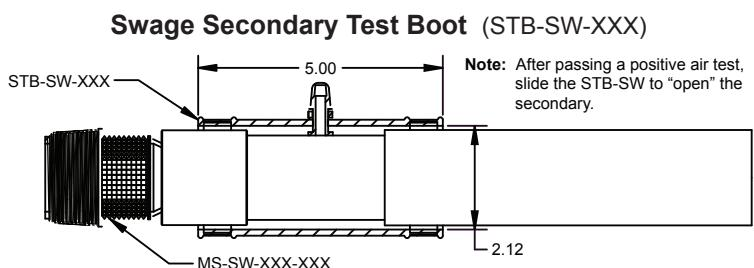

Figure 2
2. Square off and de-burr the end of the pipe. If you are using SC (Secondary Contained) piping, cut back the scuff guard layer to the sump wall (approximately 9" in dispenser sumps) and cut back the SC layer 4½". For further cutback details, see the process's complete description in the *DWC-XXX Double Wall Cutter (SC) Installation Instructions* or in APT's *Installation Guide Overview*.
4. Push the pipe through the appropriate entry boot in the sump wall and slide the Secondary Test Boot over the fitting and pipe. One end of the test boot must cover the secondary jacket; the other end will cover the swage fitting collar. No specific orientation is required (see Figure 2).